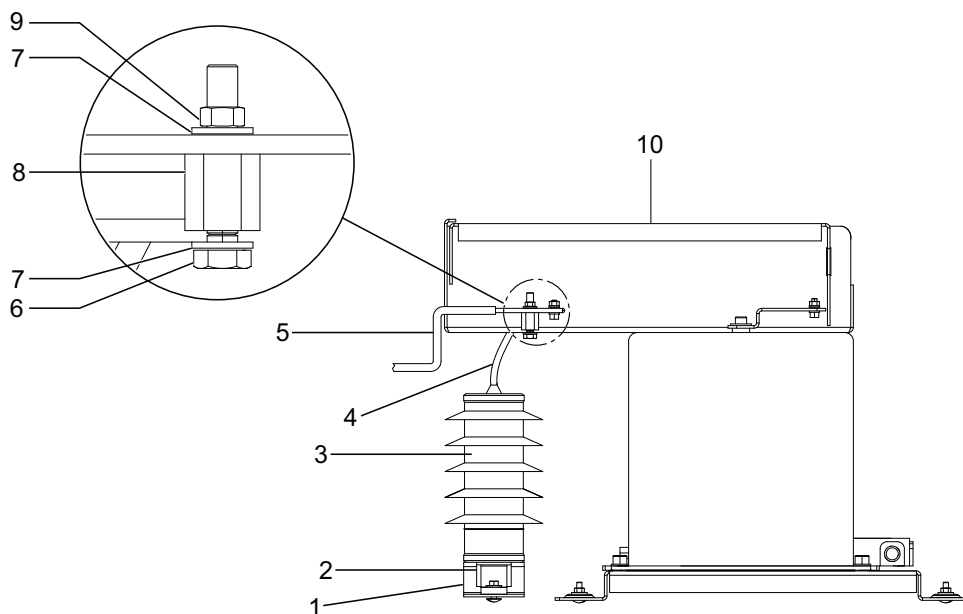

Figure 58
1. Install the surge arrester (3) to the support channel (1) with a U nut (2) (Figure 58).
2. Connect the surge arrester terminal (4) to the Fixed VT connection copper bar (5).
3. Insert the plastic bolt (8) along with screw (6), washer (7) and nut (9).
4. Install the insulation cover (10).